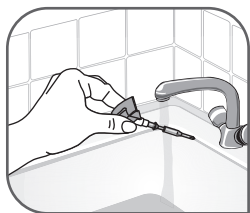

Fig. 20
- Rinse the rod under tap water – fig.20.